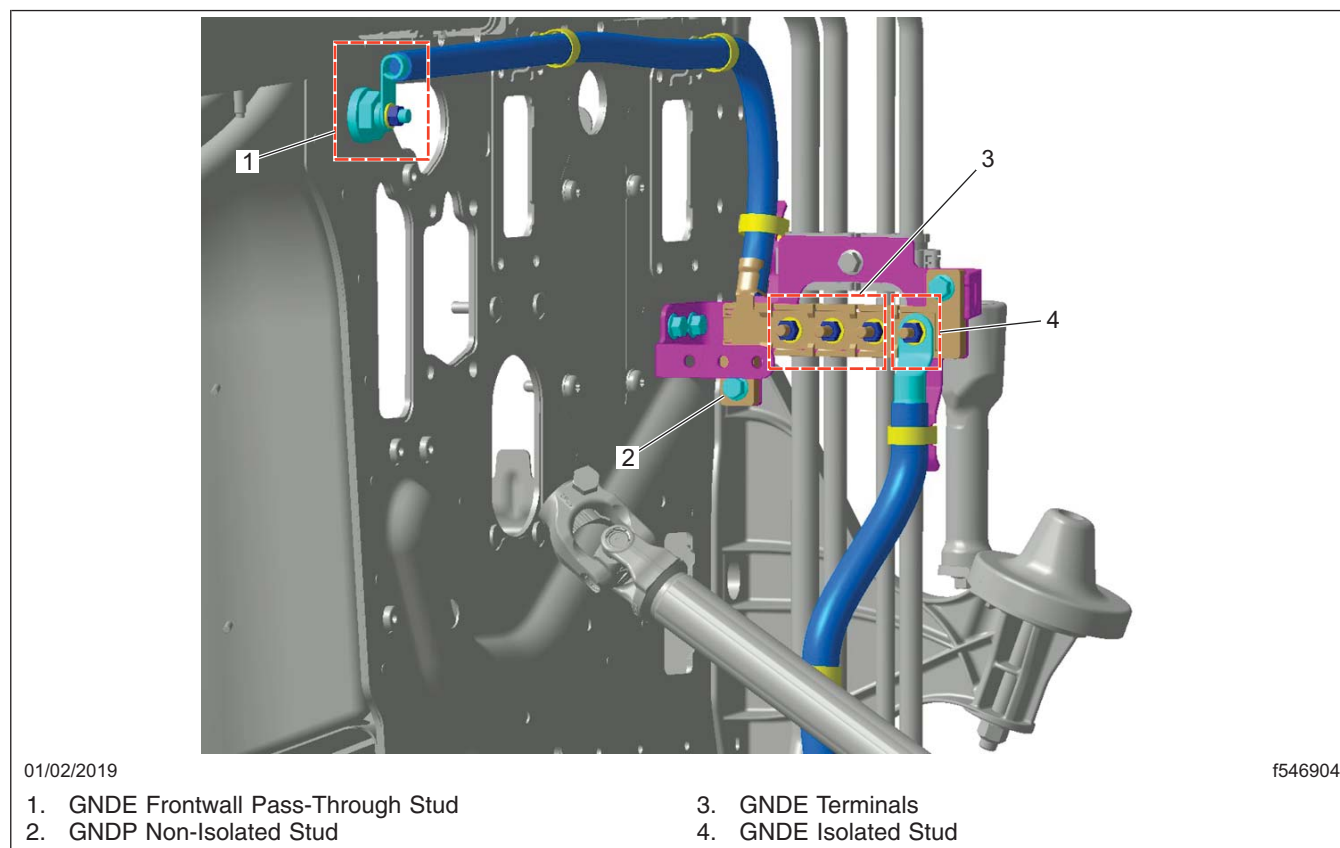

Fig. 1, MGJB and Frontwall Grounds
10. Inspect the GNDE pass-through stud on the engine side of the frontwall. Verify that the GNDE pass-through stud on the engine side frontwall is clean and torqued correctly. See Fig. 1. Disassemble and inspect the stud for overspray on the flat surfaces. Torque the stud 14 lbf·ft (19 N·m). Repaint the connection as necessary.